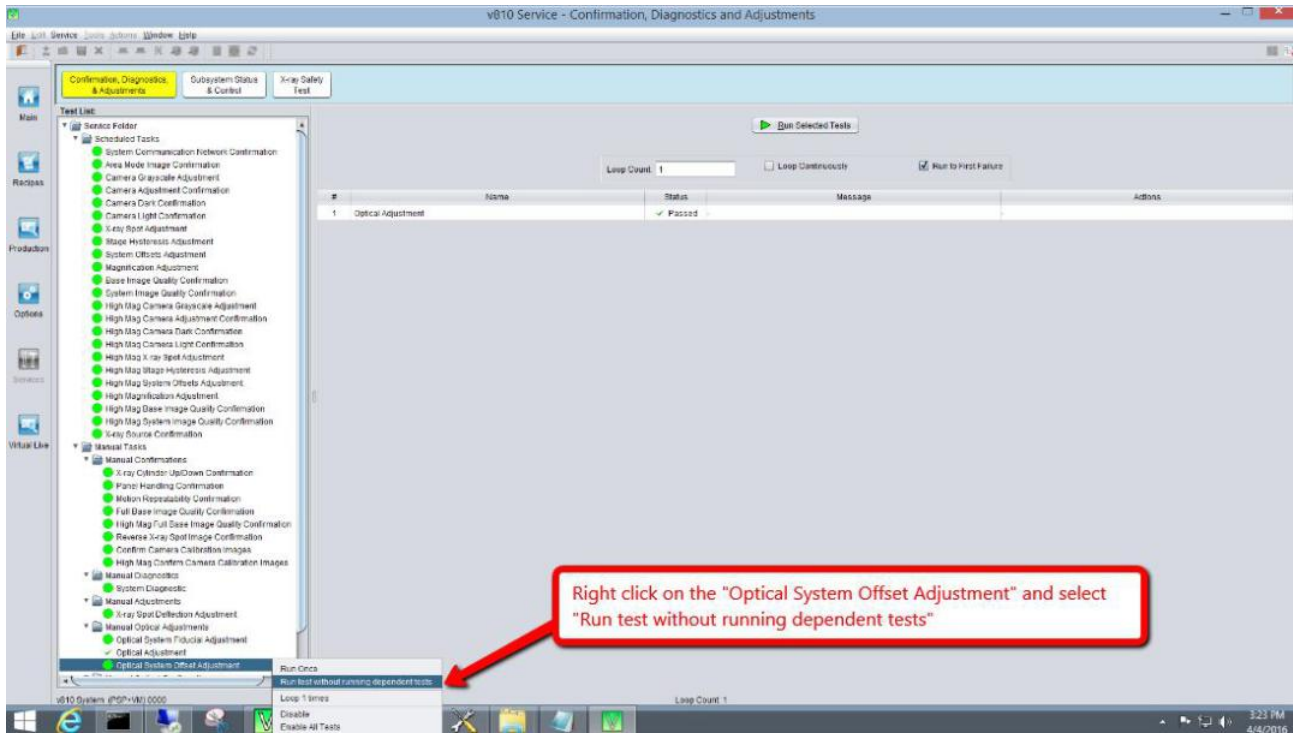

Figure 21 Optical System Offset Adjustment
18. At **Confirmation, Diagnostics and Adjustment (CD&A)**, under the **Manual Optical Adjustments**, right click **Optical System Offset Adjustment** and select **Run test without dependent tests** as shown in the Figure 21.